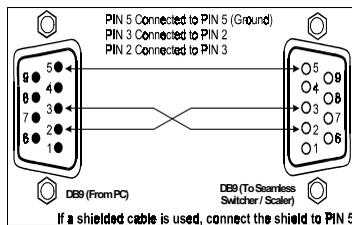

Figure 2: Connecting the PC
- Connect the RS-232 DB9 port on your PC to the RS-232 DB9 rear panel port on the **VP-724DS** unit, forming a cross-connection², as Figure 2 illustrates